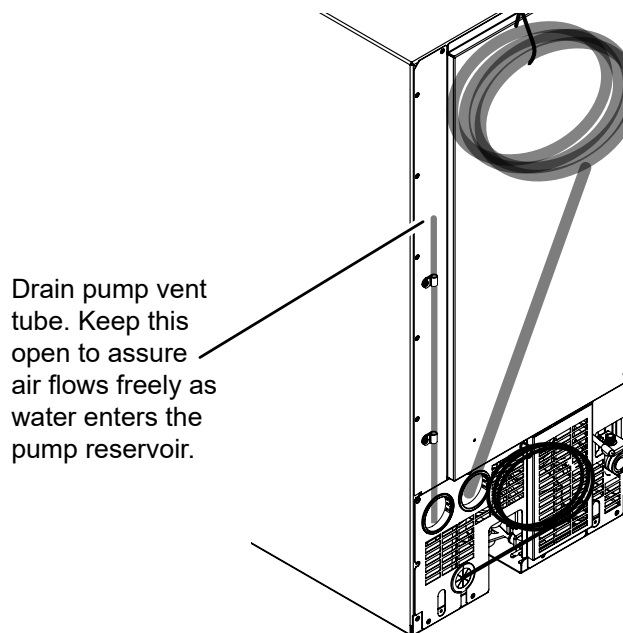

Figure 18: Location of vent tube.
- c. The vent tube on the back of the unit is open (Figure 18).